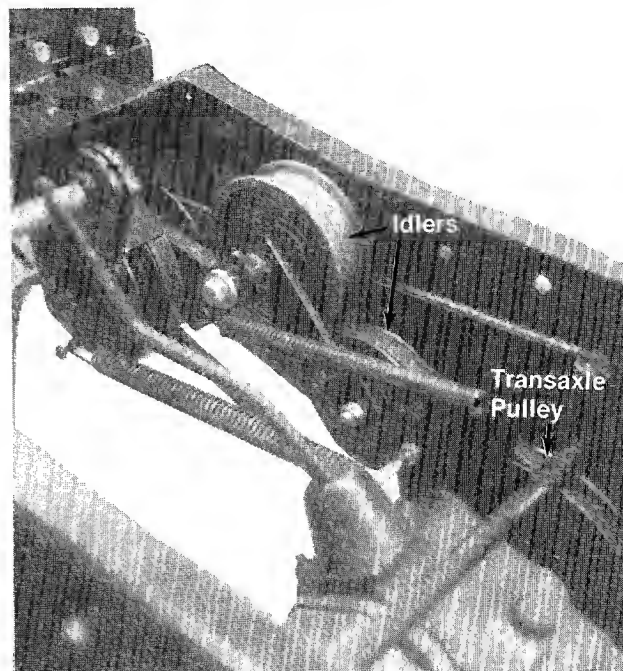

FIGURE 13
9. Remove the rear belt from the idlers and transaxle pulley. See figure 13.